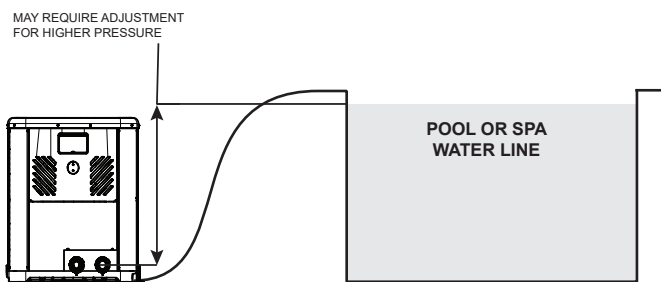

Figure 3. Water Pressure Switch Adjustment
- When the heater is located below the water line of the pool or spa, it may be necessary to adjust the Water Pressure Switch (WPS) to compensate for the no-flow static head (see **Figure 3**). For more details about adjustment, please refer to the Water Pressure Switch section on page 31. If after adjusting the WPS to its maximum setting without resolution, an external Water Flow Switch (WFS) must be installed. See "Water Flow Switch" section below for further installation instructions.